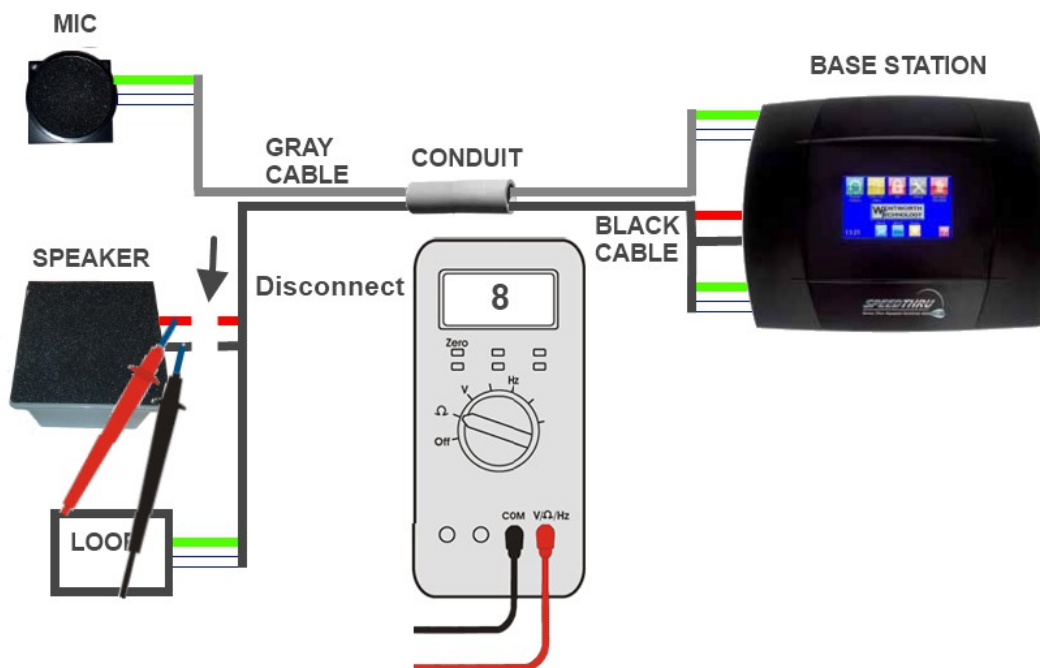

Figure 4: Testing the speaker at the order post (power off base for testing)
4. Go to the post and disconnect the speaker wires from the cable. Set meter to Ohms and test across the speaker wires as shown in Figure 4. It should read between 3-12 Ohms. Wiggle the wires and make sure the reading is steady. If not, replace the speaker. Otherwise, test the cable.